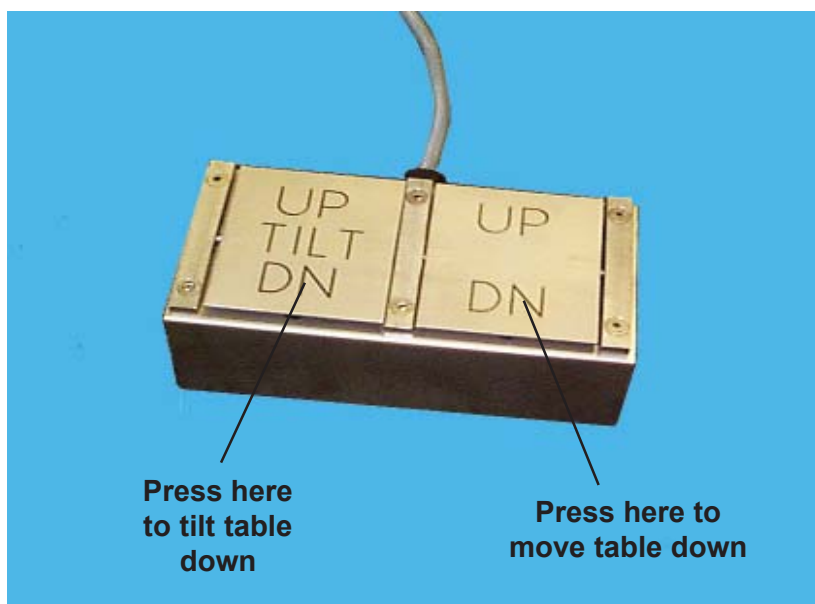

Figure 1. Foot Controller Down Pedals
2. At the foot controller (Figure 1), press the down (**DN**) side of both pedals to make sure the base is fully lowered, and not tilted.